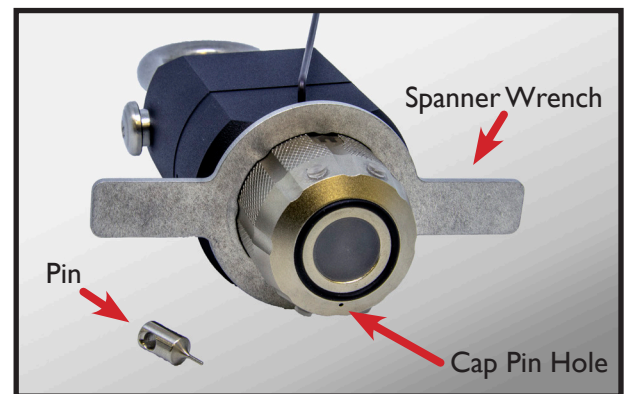

Figure 2: Cap Pin Hole, Pin and Spanner Wrench
- 4) Slide the provided spanner wrench over the cap as shown in Figure 2.
- 5) While maintaining pressure on the Allen wrench, insert the provided pin into the pin hole on the front face of the cap and push it until the pin stops. See Figure 2 and 3.